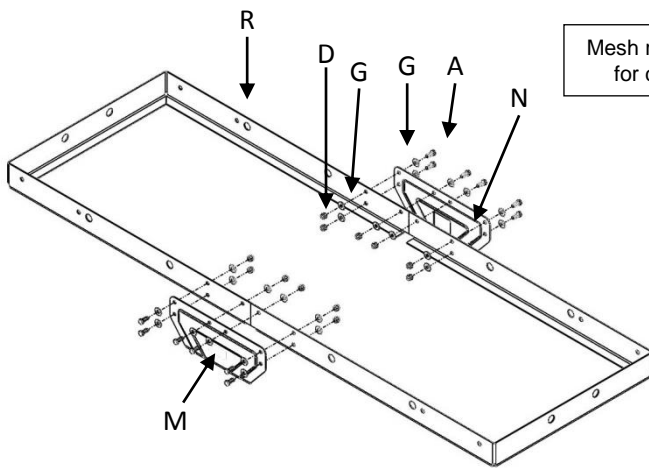

Fig 1
- Align both halves of the basket on the ground. Attach each end plate to the outside of the basket as shown in Fig 1 and fasten loosely with (12) 1/4" bolts, (24) 1/4" flat washers, and (12) 1/4" hex nuts.
- Slide 2" shank through shank hole and align holes in end plates. Align center plate on the inside of the basket with holes in shank and loosely attach with (2) 3/8" carriage bolts, (2) 3/8" flat washers, and (2) 3/8" nuts.